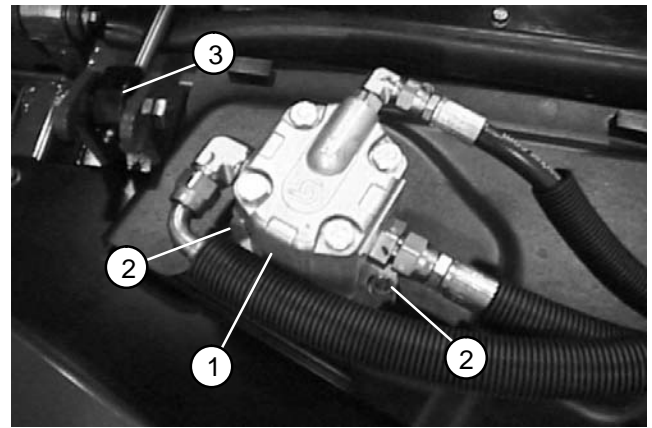

Figure 7
2. Fully raise wing deck, stop engine, and remove key from the ignition switch. Remove three (3) washer head screws and shield strap that secure flex shield to wing deck. Lower wing deck.
4. Remove cap screw and lock nut that secure lift cylinder clevis to the wing deck (Fig. 7).
**NOTE:** If two thrust washers (item 6) cause front link to bind, use only one thrust washer on rear side of front link.
4. Position thrust washers (item 6) to upper end of links. Front link has both thrust washers toward the rear. Rear link has thrust washer on each side. Also, place hardened spacer (item 42) on each side of front link. Align upper end of links with mounting holes in center deck. Install pivot pins.
6. Position lift cylinder to the wing deck (Fig. 7). Secure cylinder with cap screw and lock nut.
8. Fully raise wing deck, stop engine, and remove key from the ignition switch. Secure flex shield to wing deck with shield strap and three (3) washer head screws. Lower wing deck.